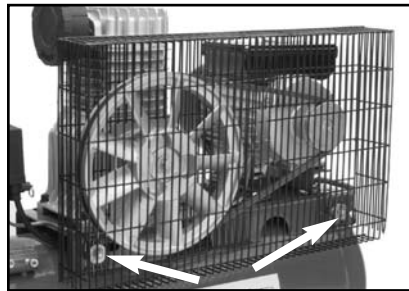

Figure 11. Belt Guard and mounting bolts.
1. Remove the belt guard from the air compressor shown in **Figure 11**. The guard is attached to the compressor frame by the two mounting bolts shown in **Figure 11**.